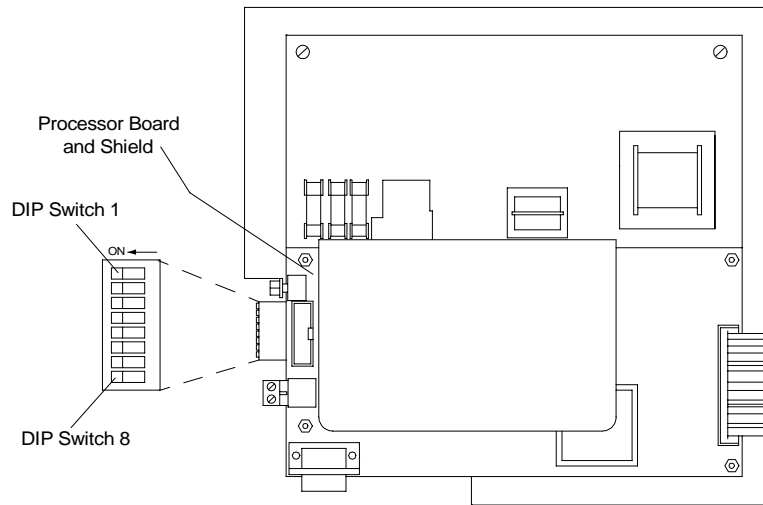

Figure 2 Setting DIP switches
- 8 Set the DIP switches on the replacement Inverter board assembly MPU board to match the settings recorded in step 6. See figure 2.